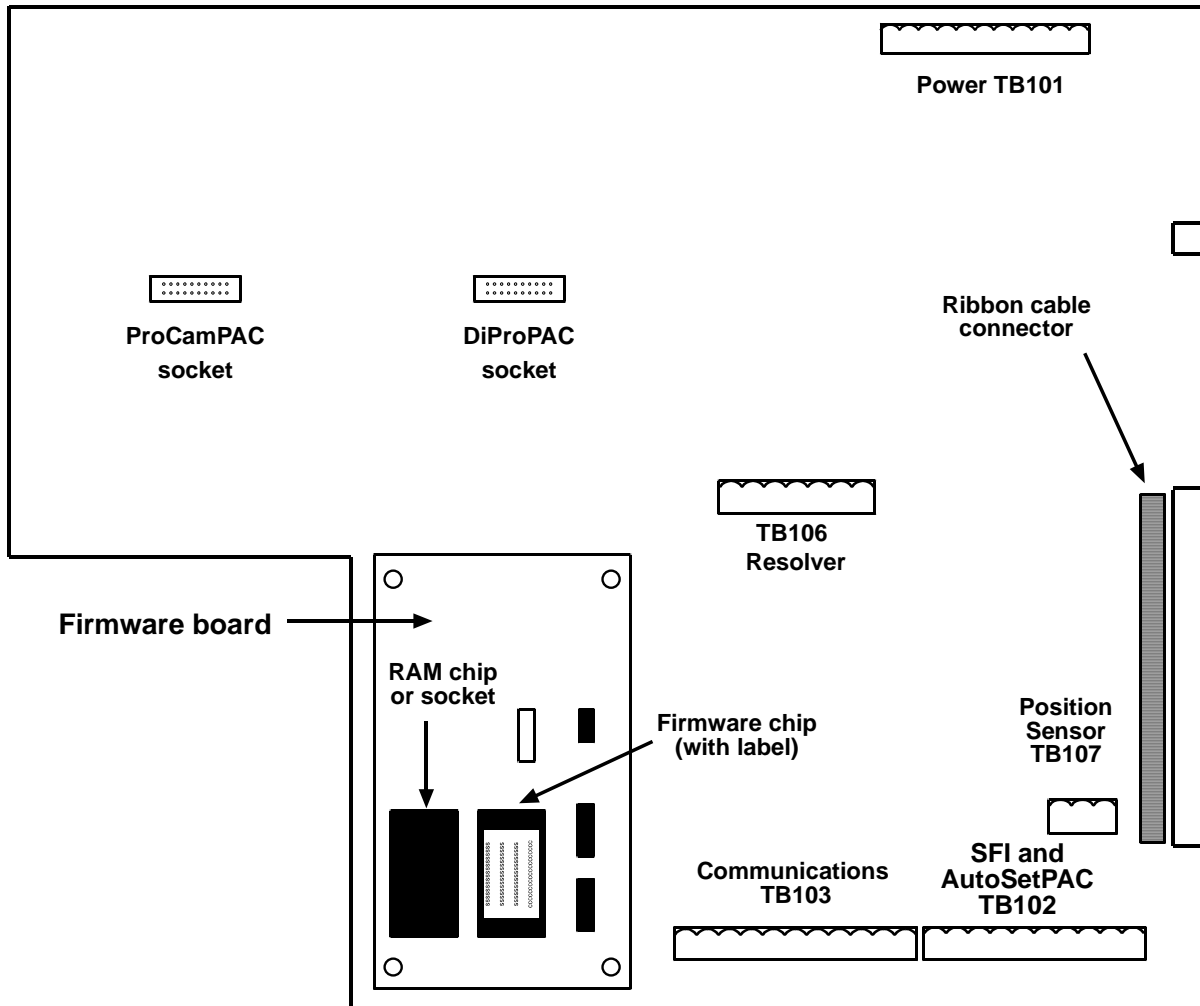

Figure 2-1. SmartPAC Processor Board: Location of Important Components
2. Making sure that you are grounded, open the SmartPAC enclosure and find the SmartPAC firmware board, which is located in the lower left corner of the SmartPAC processor board (see Figure 2-1, next page).
The white label on the firmware chip on the SmartPAC firmware board (see Figure 2-1) provides SmartPAC firmware identification information, including version number.
5. Remove the new SmartPAC firmware board from its package and plug it into the SmartPAC processor board so that the RAM and firmware chips are at the bottom, as shown in Figure 2-1.
3. Open the SmartPAC or SmartPAC 2 enclosure and locate terminal TB102 on the SmartPAC processor board (see Figure 2-1) or TB103 on the SmartPAC 2 board (see Figure 8 at the end of the manual).